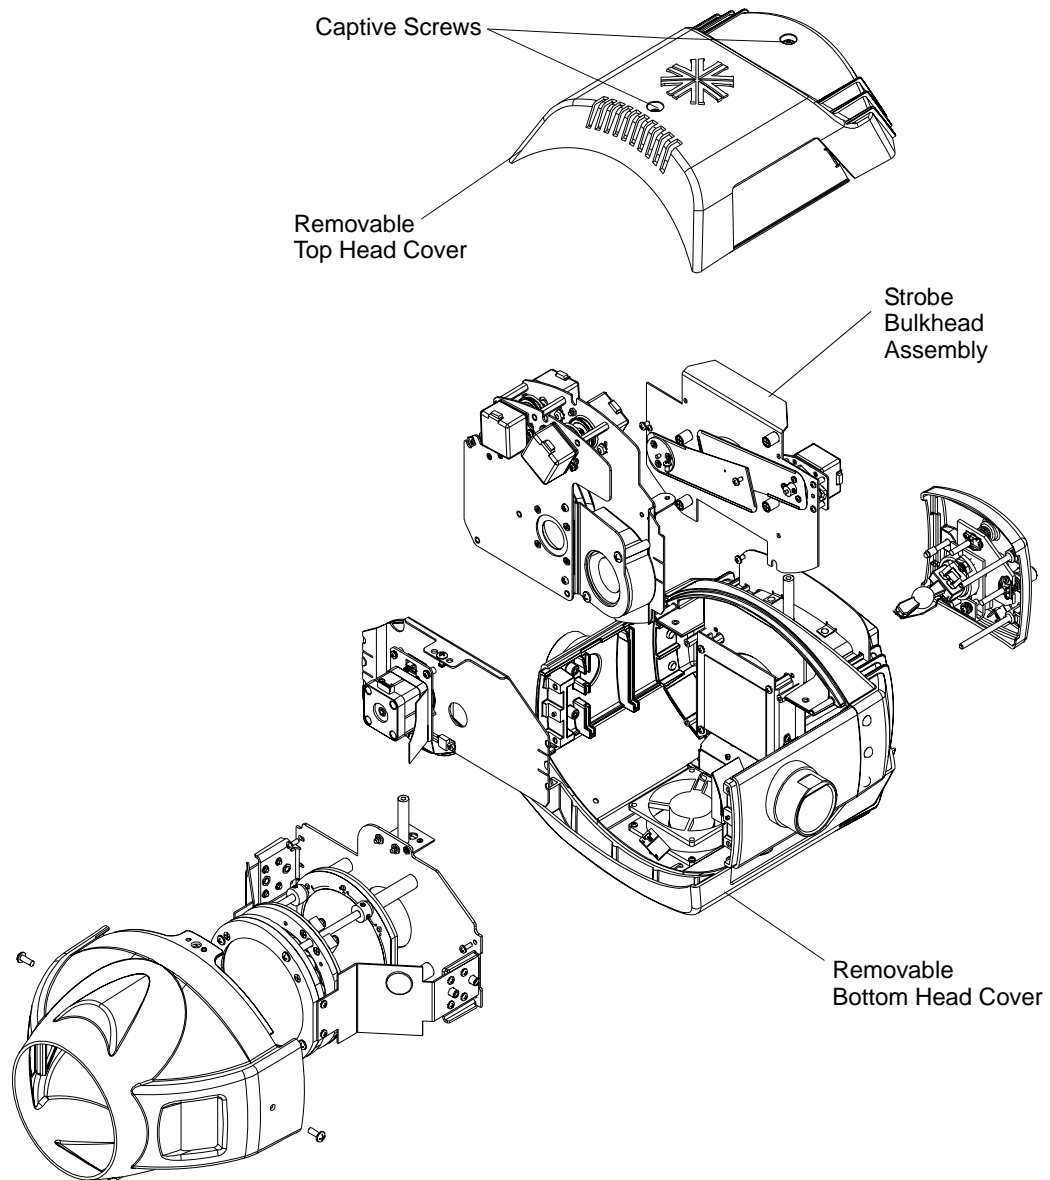

Figure 2-6: Strobe Bulkhead Replacement
- Step 8. Slide strobe bulkhead assembly out of head assembly as illustrated in Figure 2-6 on page 22.